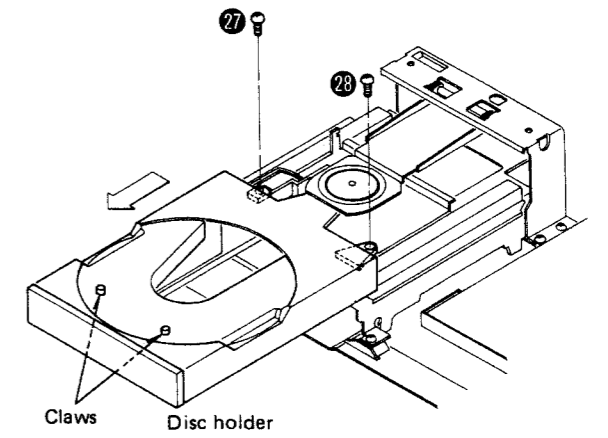

Fig. 14
3. Remove the disc holder setscrews. [Fig. 14: 27, 28].
5. Remove the disc holder in the direction of the arrow as in Fig. 14.